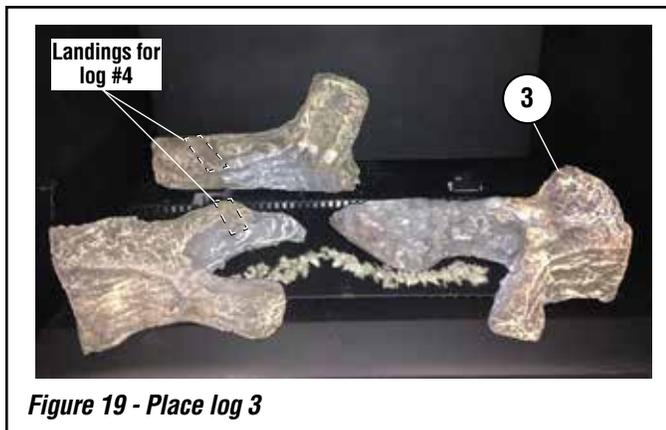

Figure 19 - Place log 3
- Position the left cross log (4) on the landings on the left rear log (1) and the left front log (2) (see **Figures 19 and 20**).